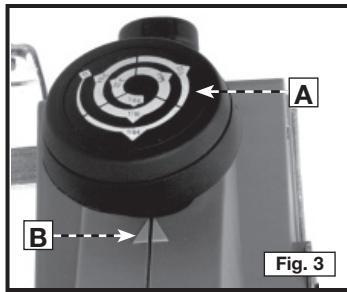

Fig. 3
Adjust the depth of cut by rotating the knob (A) Fig. 3. Find the desired depth marking (on top of the adjustment knob) and align it with the pointer (B) Fig. 3.